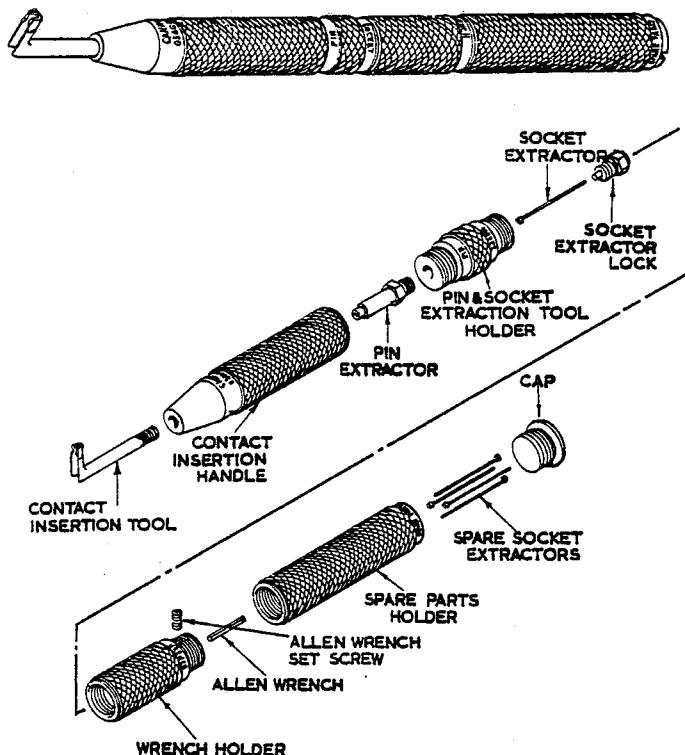

Fig. 10. Exploded view of tool
18. The insertion-extraction tool is of multi-part construction. The pin and socket contact extractors are housed within the tool as shown in fig.10, an Allen key wrench is also within the tool for removing and installing connector endbells.